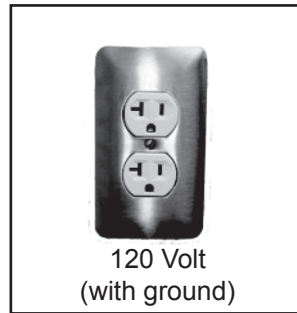

Fig. 1
- Plug the appliance to the electrical outlet (Fig 1)
- Press the main switch (E)
- Wait for the boiler to reach operating pressure. When the green light (A) turns on, the appliance will be ready for use (using hot water will expedite heating process)
-Connect VaporLux to a suitable outlet. Always make sure that the outlet is equipped with earth, ground fault interrupter and is of matching voltage to that specified on the appliance data plate (**Fig 1**);
-Do not lead the Power Cord (J) over corners, sharp edges or hot objects and protect it from oil;